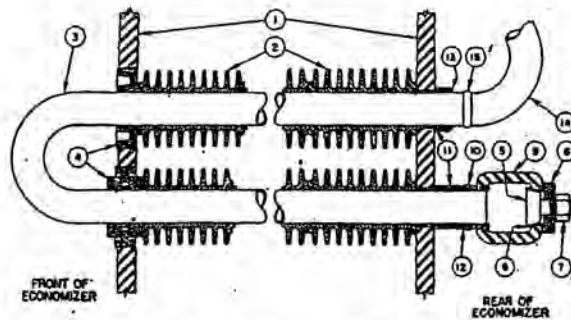

FIGURE 2. STANDARD U-BEND ECONOMIZER ELEMENT CONNECTED TO HEADERS WITH WELDED RETURN BENDS.
For internal inspection of the elements the hand-hole plate must be removed. Refer to Fig. 2.
- (6) Crimp ferrule (or gasket) part No. 8 Fig. 2 using crimping tool (Fig. 3) and remove from header.
- (7) Remove plug (5) by means of lifting tool.
Burn, or preferably cut off (using hack saw) both return bends (14) Fig. 2 from effected element at four places where the return bends are welded. This cut should be made through the weld (15). This is necessary for accessibility in installing and aligning new element. Chip the tack weld (13) to spacer on effected element only. If one
After return bend is welded in place, tack weld tube to spacer in four places (Fig. 2, #13).
An illustration of typical side wall construction can be seen in figure 1. The application of materials in the floor and corbell in this type of unit is also illustrated in this figure. The materials used in the front wall and burner sections are shown in figure 2.